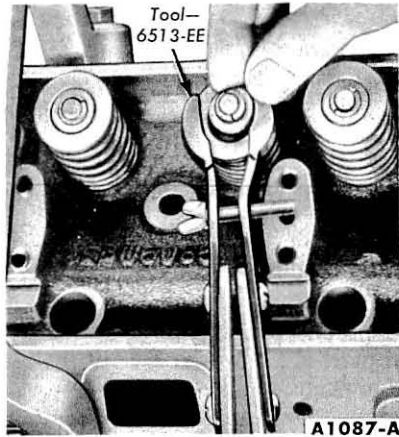

FIG. 19—Valve Spring Retainer Lock Removal or Installation
2. Compress the valve springs (Fig. 19), then remove the spring retainer locks, and release the spring.
7. Compress the spring and install the retainer locks (Fig. 19).